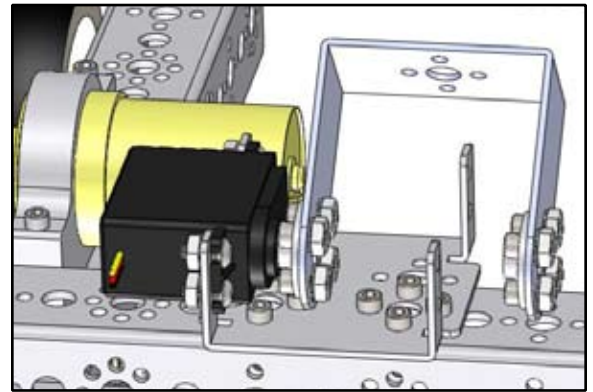

Figure B11
- Place the pivot bracket so the horn on the outside of the pivot bracket connects with the servo on the motor bracket (Figure B11). Secure the servo horn to the servo with the servo horn screw.